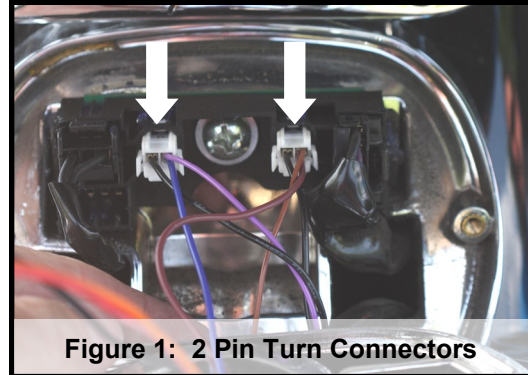

Figure 1: 2 Pin Turn Connectors
6. Locate the left and right 2 pin turn signal connectors. Press down release tab on the top of connector to unplug both. (See Figure 1 on Page 2)
7. Plug the 2 pin turn signal plugs from new taillight into the same connectors, brown is right turn, purple is left turn. Make sure they lock in place. (See figure 1)